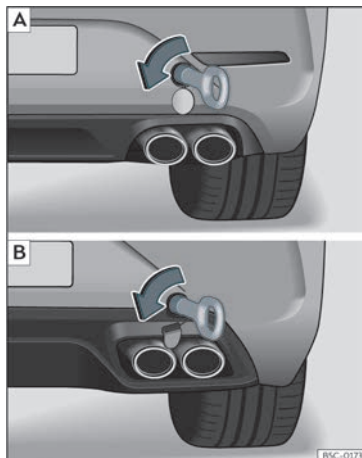

Fig. 50 On the right side of the rear bumper: towline anchorage in position. [A] Leon Sportstourer; [B] Leon.
- Screw the towing eye in the housing by turning it to the maximum **anticlockwise** >>> **Fig. 50** >>> **!**. Use a suitable object that can completely and securely tighten the towing eye in its housing.